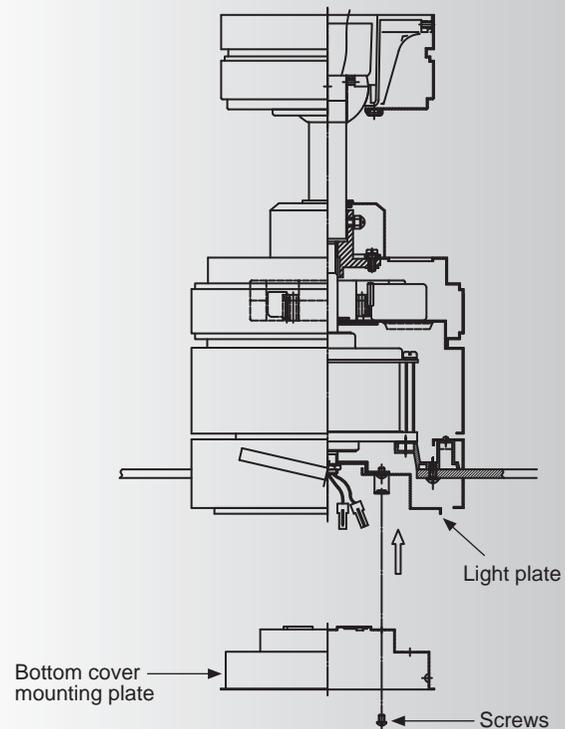

Fig. 16
Step 2. Hold the bottom cover mounting plate close to the light plate and place the key holes on the bottom cover mounting plate over the 2 screws previously loosened from the light plate, turn the bottom cover mounting plate until it locks in place at the narrow section of the key holes. Secure by tightening all three screws. (Fig. 16)